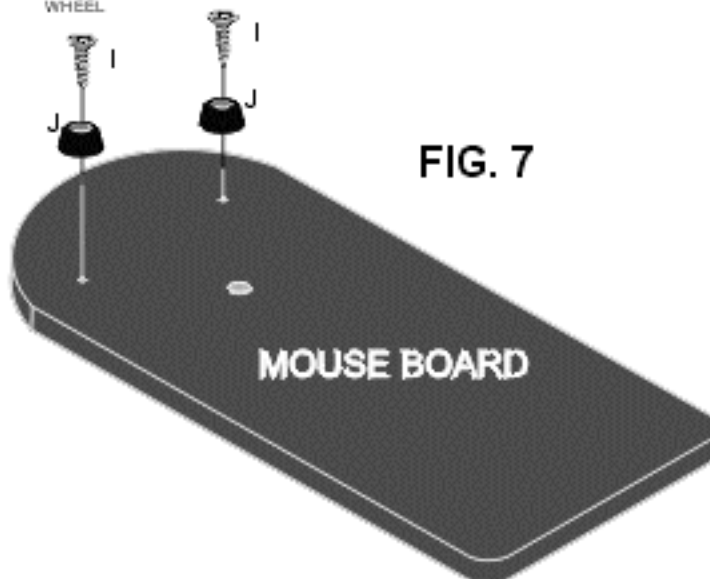

FIG. 7
Align and attach (2) RUBBER BUMPERS (J) to pre-drilled holes as shown. FIG. 7 Use (2) #6 X 5/8" FLAT HEAD SCREWS (I).